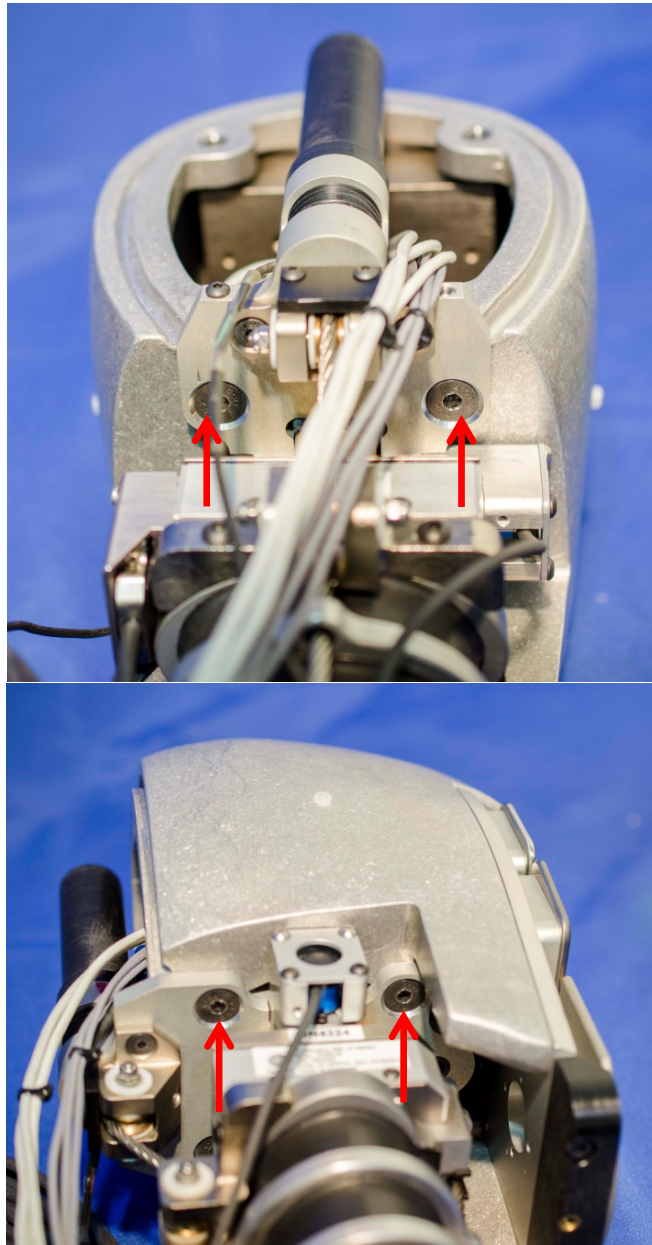
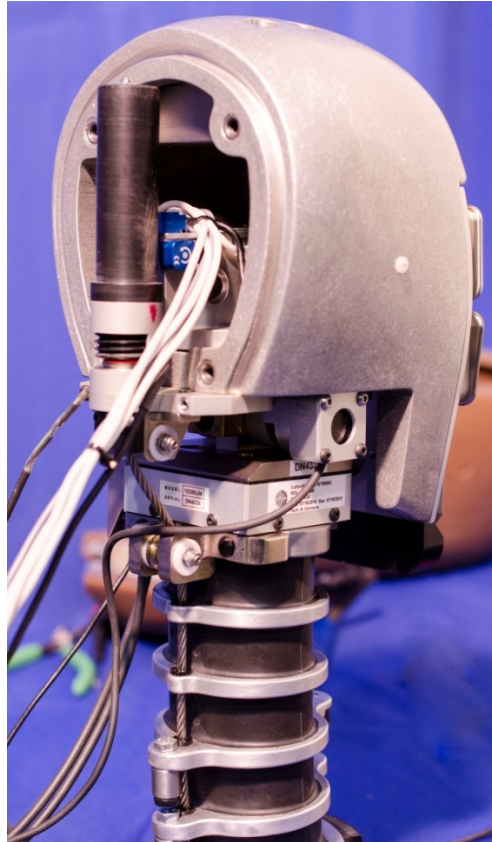

Figure 3-18. Attach the head to the neck
Figure 3-19. Head attached to neck
3.2.2.14 To attach the head to the neck assembly, insert the completed Head / Neck Mounting Platform Assembly (472-2200) up through the bottom of the Head Assembly (472-1000). Tighten the four M6 x 1 x 25 FHCS from the underside of the head (Figure 3-18 and Figure 3-19).